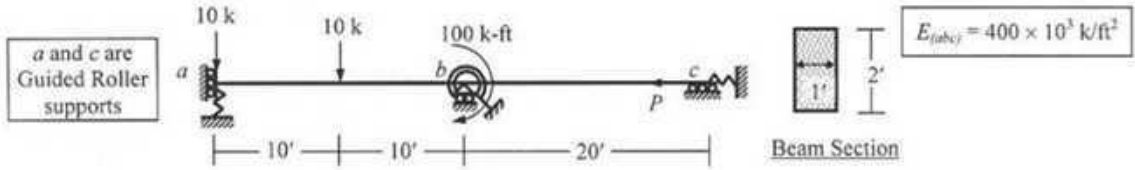

Fig. 5
5. In the three-dimensional truss ABCD shown in *Fig. 5*, ignore zero-force members and formulate the stiffness matrix, load vector and write down the boundary conditions [Given,  $EA/L = \text{constant} = 500 \text{ k/ft}$ ]
5. Consider axial and flexural deformations to assemble the stiffness matrix, load vector and specify boundary conditions of the beam  $abc$  loaded as shown in Fig. 5, if  $P = 10$  k,  $E_{(abc)} = 400 \times 10^3$  k/ft2 and springs at  $a, b, c$  represent circular foundations of radius 2-ft on the surface of sub-soil (half-space) with shear modulus  $G_s = 150$  k/ft2 and Poisson's ratio  $\nu = 0.30$ .
6. Depending on the stiffness of springs at  $a, b$  and  $c$ , the beam  $abc$  in Fig. 5 can take the forms shown in Fig. 6(i) and 6(ii). Determine the